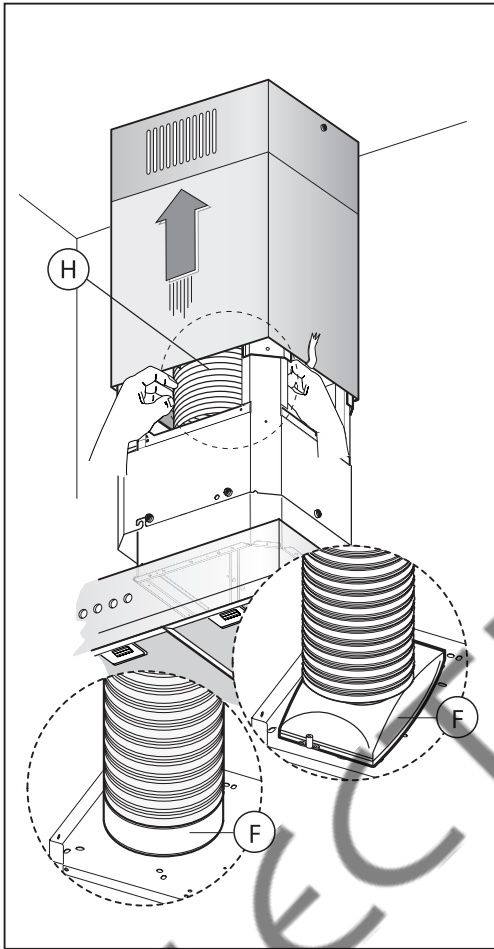

Fig.12
- Fix the air evacuation pipe **H** (not supplied) onto the connection flange **F** (Fig.12).